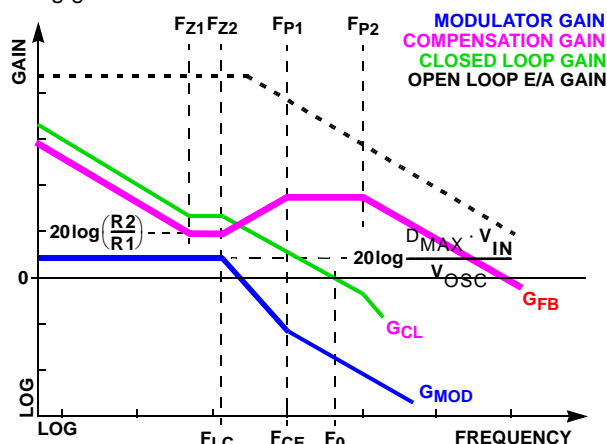

FIGURE 8. ASYMPTOTIC BODE PLOT OF CONVERTER GAIN
Figure 8 shows an asymptotic plot of the DC/DC converter's gain vs frequency. The actual Modulator Gain has a high gain peak dependent on the quality factor (Q) of the output filter, which is not shown. Using the previously mentioned guidelines should yield a compensation gain similar to the curve plotted. The open loop error amplifier gain bounds the compensation gain. Check the compensation gain at  $F_{P2}$  against the capabilities of the error amplifier. The closed loop gain,  $G_{CL}$ , is constructed on the log-log graph of Figure 8 by adding the modulator gain,  $G_{MOD}$  (in dB), to the feedback compensation gain,  $G_{FB}$  (in dB). This is equivalent to